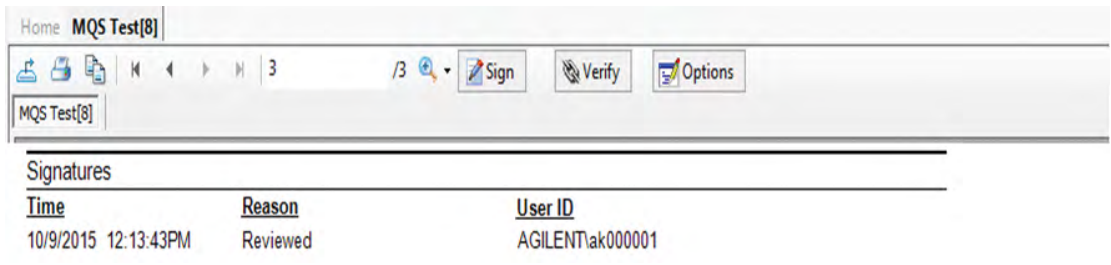

Figure 9. Display of electronic signature
- Signature manifestations:** Signed electronic records contain information associated with the signing that clearly indicates all of the following: the printed name of the signer, the date and time when the signature was executed, and the meaning (such as review, approval, responsibility, or authorship) associated with the signature (Figure 9).